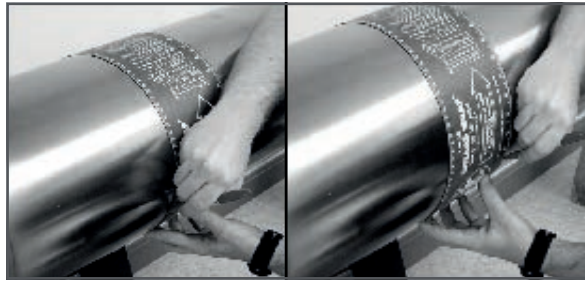

Figure 22: Marking Circumferential Lines on the Pipe
2. Tightly wrap the layout tape once around the entire pipe and line up the edges. Using the tape as a template guide for marks, mark scribe lines around the entire circumference of the pipe, as shown in *Figure 22*.